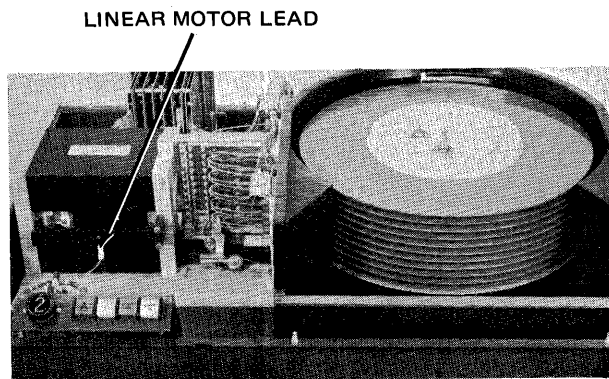

Figure 5-46. Linear Motor Connector
- a. Remove ac power and remove linear motor lead (see Figure 5-46).